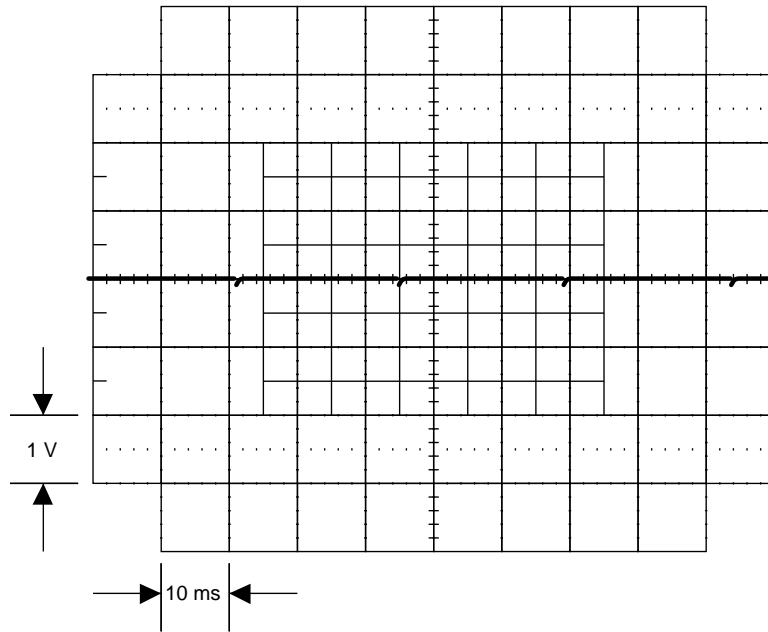
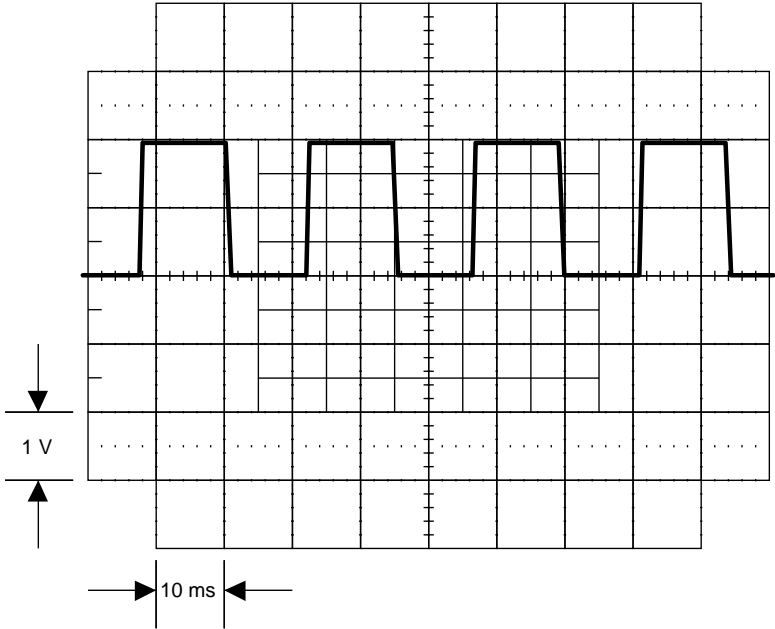

Figure 5-18. Waveform at TP4, 5700A Set to 0V
Figure 5-19. Waveform at TP4, 5700A Set to 6.5V
4. Check CH1 SERIES B. Connect an oscilloscope to TP4 (common to TP3).Set the oscilloscope to 10V/div at 2 ms/div and verify it displays pulses as shown in Figure 5-18. Next, set the 5700A to 6.5V dc, operate. Verify the oscilloscope displays pulses with approximately 50% duty cycle as shown in Figure 5-19. If either of these displayed signals are incorrect, skip to Duty Cycle Control Circuit.
10. Check CH1 SERIES B. Connect an oscilloscope to TP4 (common to TP3). Set the 5700A to 6.5V dc, operate, and the oscilloscope to 10V/div at 2 ms/div. The oscilloscope should display a signal similar to previously shown Figure 5-19. If a failure is detected, check Q33, Q34, and their associated components.